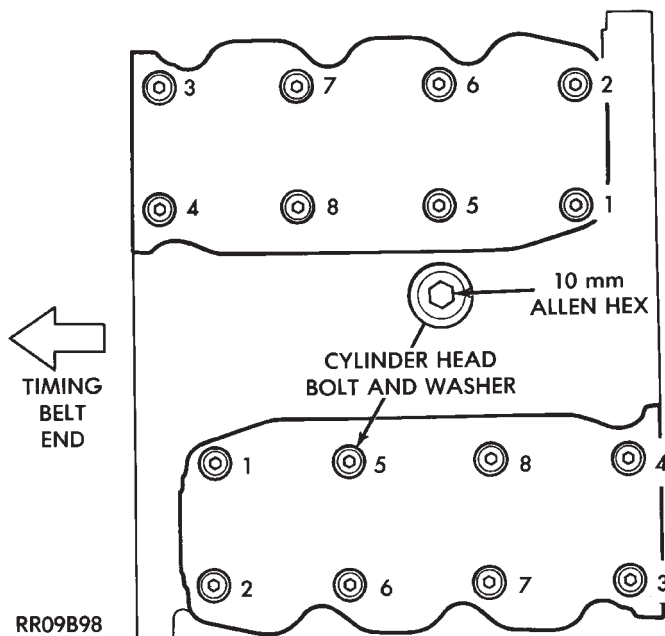

Fig. 14 Cylinder Head Bolt Removal Sequence
- (6) Remove cylinder head bolts in sequence shown in (Fig. 14) and remove cylinder head.